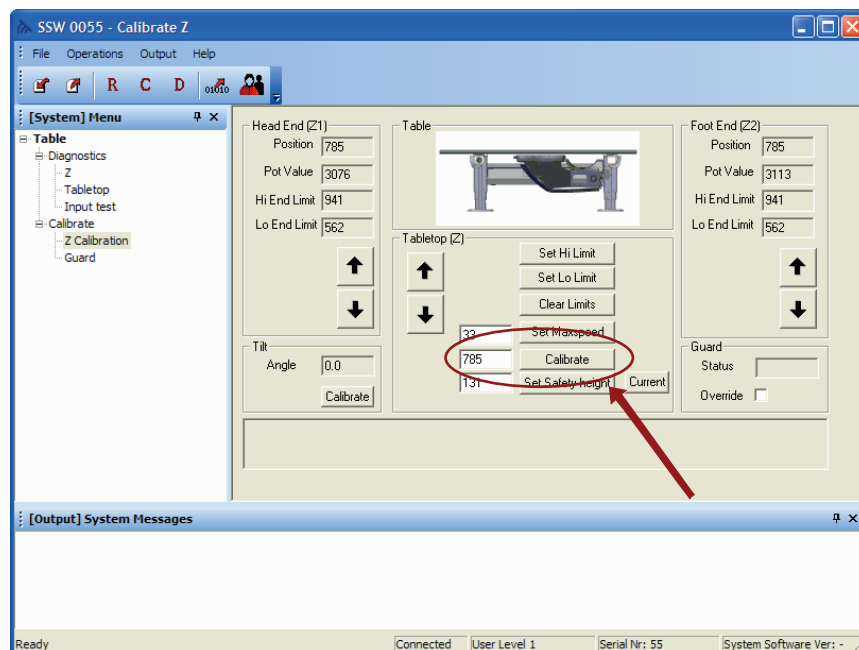

Fig. 4-153 Calibration Table height
6. Enter the distance (in mm) in Edit box beside the Calibrate button of the table top (Z), see Fig. 4-153 *Calibration Table height*.
8. Press the reset (R) button.